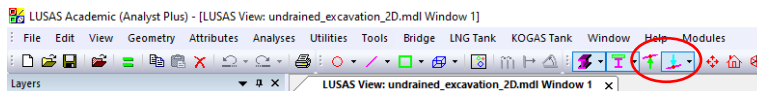

Figure 67: Hide supports and loads
- To hide the supports and loading arrows click on the icons shown in figure 67.